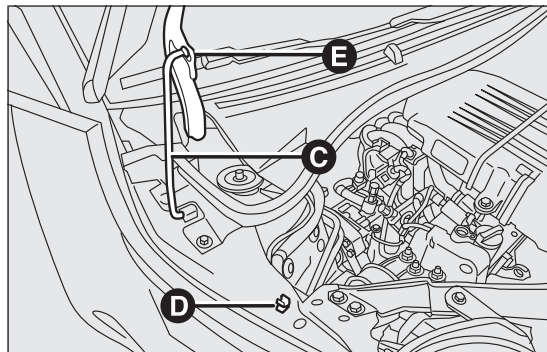

fig. 60
- ☐ lift the bonnet and, at the same time, release the supporting rod C fig. 60 from its catch D, then insert the end of the rod into housing E in the bonnet (larger hole) and push to safety position (smaller hole), as shown in the figure.
- ☐ hold the bonnet up with one hand and with the other remove rod C fig. 60 from housing E and fit it back into its catch D